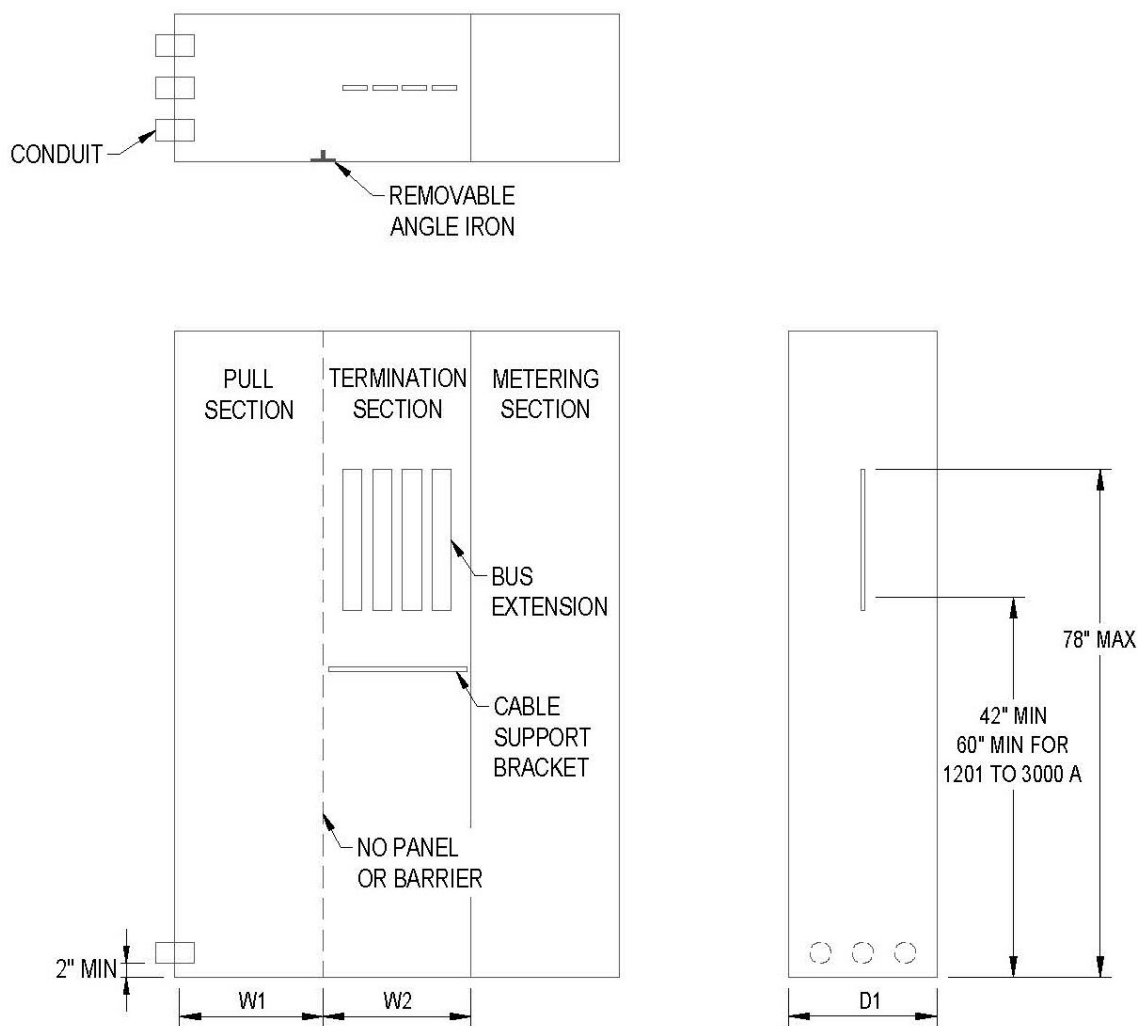

Figure 111. Underground Service Termination in a Pull Section Below Ground Level, Showing Pull Section with Side-Entry Conduits at the Bottom (STD-D-6264)
- The pull section and termination section shown in Figure 110 and Figure 111 are reserved for PGE supply conductors. No conduits or customer wiring is to be installed in—or routed through—this area.